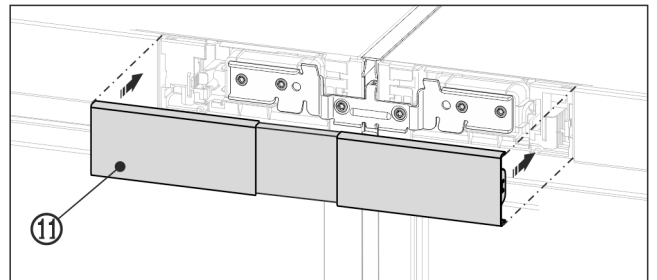

Fig. 19 Example illustration
- Snap the top cover Fig. 19 (11) onto the still open gap between the two control panel trims. Make sure that the outer sides of the cover form a flush finish with the control panel trims.